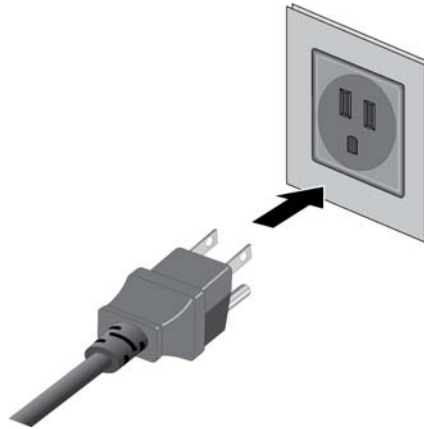

Figure 38. Connecting the Power Cord to an AC Power Source
4. Connect the power cord to an appropriate AC power source. Refer to Figure 38.